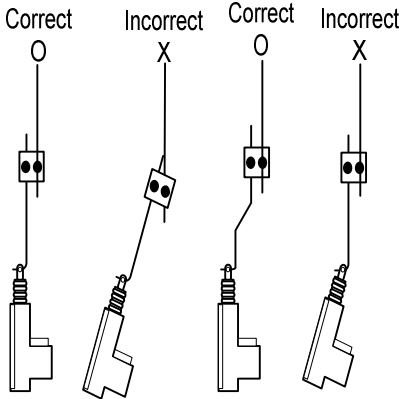

Fig. 2 ROD ASSEMBLY
2. Align the actuator in the correct direction as shown in Fig 1-a, Fig 1-b, and Fig 2. Make sure the actuator does not obstruct any moving part within the door (window and associated mechanism). Move the window up and down to ensure it will not interfere with the actuator. Make sure the actuator rod moves parallel with the vehicle's lock rod.
5. Make sure the actuator's movement is parallel with the vehicle's lock rod, as shown in Fig 2. otherwise the actuator may not function properly or become permanently damaged.